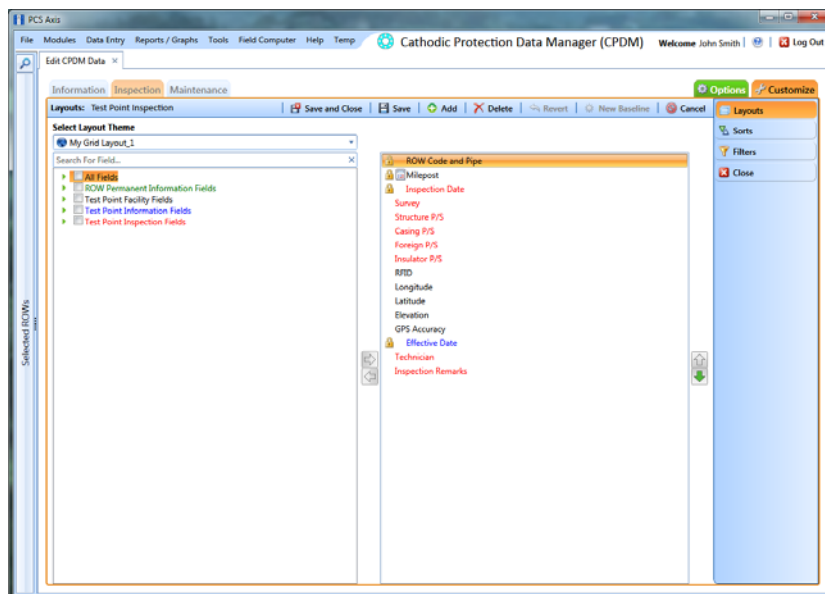

Figure 6-68. Layouts
- 8 Click  **OK** to save changes and return to the *Layouts* page (Figure 6-68, page 238).